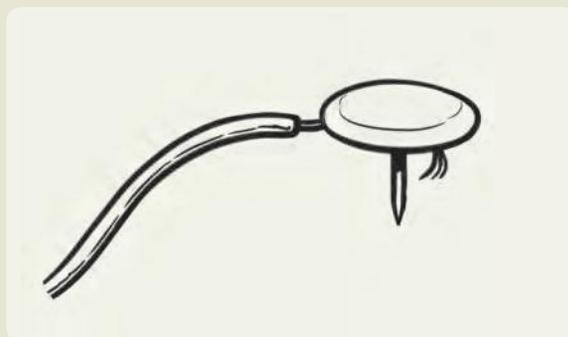

Figure 8.14 Stripped wire attached to a drawing pin
- 1 Connect a piece of wire to a drawing pin as shown in Figure 8.14. You need two of these.